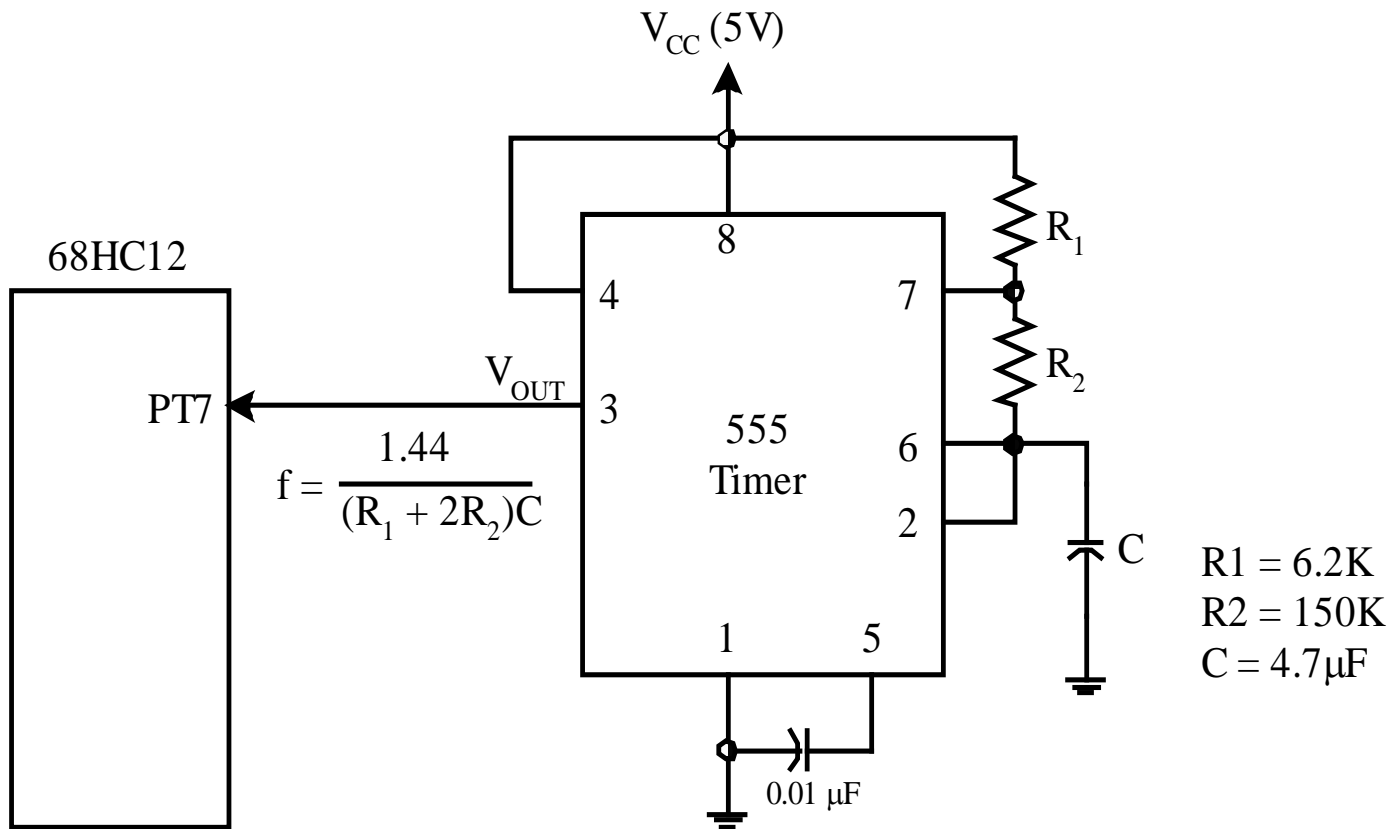

Figure 6.6 68HC12 PAI interrupt circuit
1. Using the 555 timer chip to generate a digital waveform with frequency equal to approximately 1 Hz. The circuit connection of the 555 timer is illustrated in Figure 6.6. Connect the 555 timer output (pin 3) to the PT7 pin (pulse accumulator input) of the 68HC912BC32.